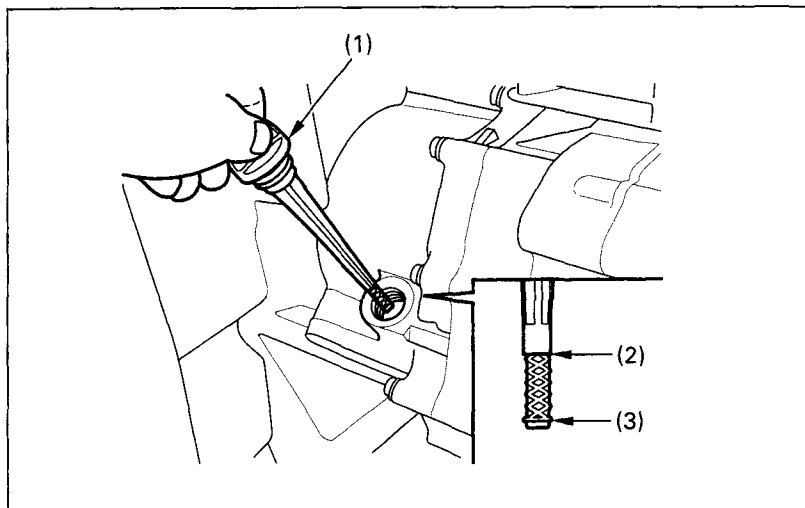

Fig. 2-27 (1) Oil filler cap/dipstick (2) Upper level mark (3) Lower level mark
The oil filler cap/dipstick (Fig. 2-27), on the front crankcase cover, is used to measure the oil level. The oil should be checked each day before operating the FOURTRAX and maintained between the upper level mark (2) and the lower level mark (3).